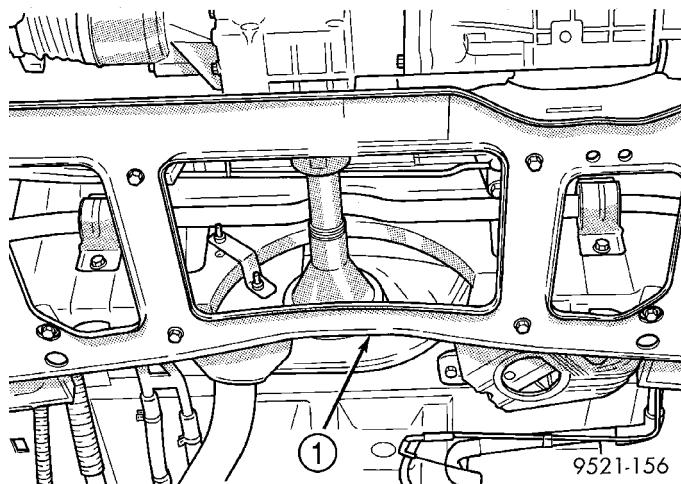

Fig. 6 Crossmember Cradle Plate
(28) Using a blade or suitable hose cutter, cut transaxle oil cooler lines off flush with fittings. Plug cooler lines and fittings to prevent debris from entering transaxle or cooler circuit. A service splice kit will be installed upon reassembly.
(29) Disconnect transaxle shift linkage and electrical connectors.
(30) Raise vehicle on hoist and drain the engine oil.
(31) Remove the axle shafts. (Refer to 3 - DIFFERENTIAL & DRIVELINE/HALF SHAFT - REMOVAL)
(32) Remove crossmember cradle plate (Fig. 6).